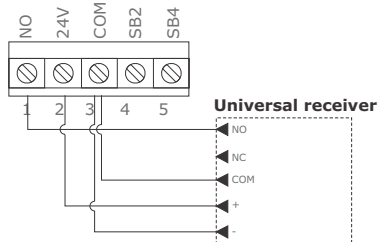

Figure 15
- c. 24VDC universal receiver (Figure 15)